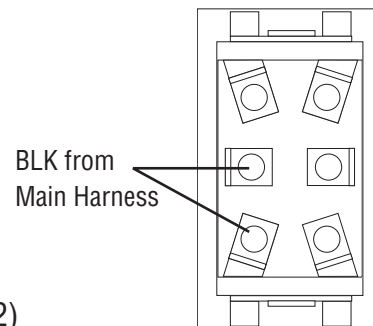

FIG. 2
14. Attach 2 wires removed from old switch to new switch. (FIG. 2)